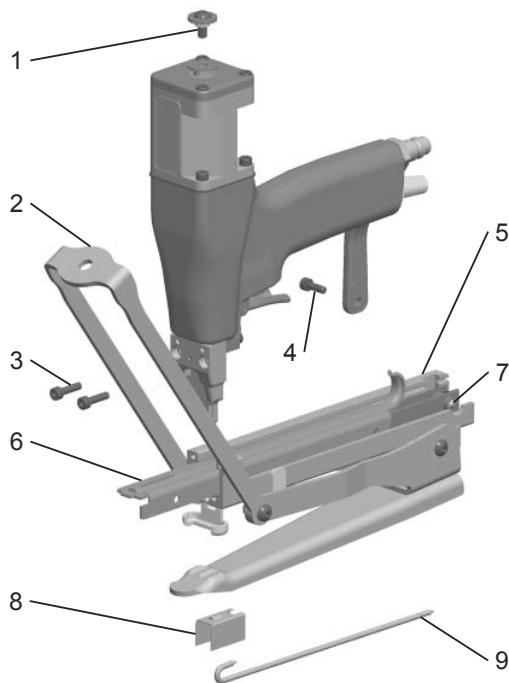

Fig. 6
- Disassemble the screw (Fig. 6/1) holding the power arm (6/2) turn it underneath the magazine.